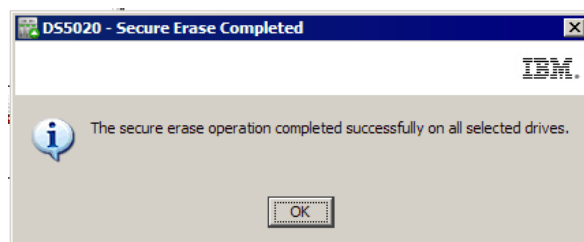

Figure 3-130 Secure erase completed.
3. After the secure erase operation is complete as shown in Figure 3-130, click "OK".